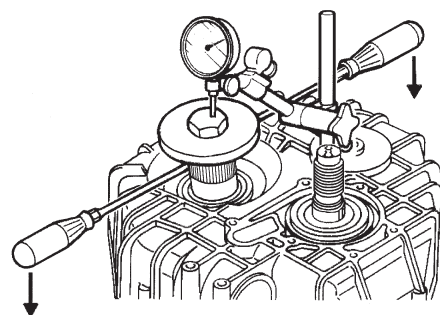

FIG. 5-6
- f) Lift output shaft carefully, using two screwdrivers, and record measurement (Fig. 5-6).